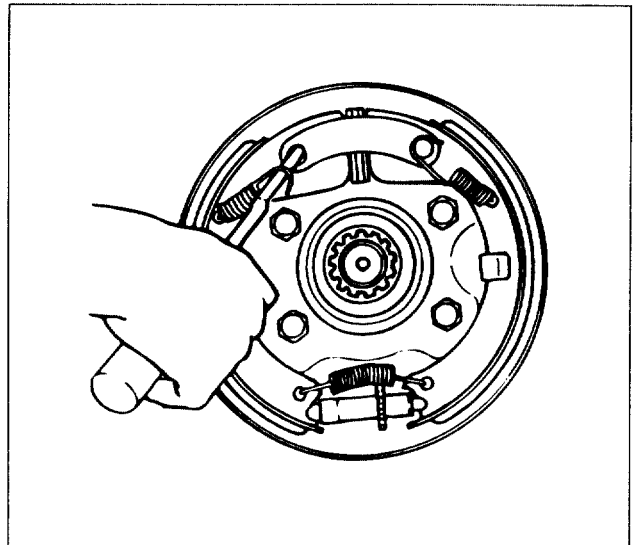

Figure 5 – Installing or Removing the Springs
2. Nut (23).
3. Drum (22) and flange (18).
- O-ring seal (20) in the flange (18) bore.
4. Spring (11) two places (figure 5).
5. Spring (15).
6. Adjuster (29).
7. Shoes (14).
1. Shoes (14).
2. Adjuster (29).
3. Spring (15).
4. Spring (11).
- Install springs (11) to the anchor pins (13) (figure 5).
5. Drum (22) and flange (18).
6. Nut (23).
- MLD Nut (23) to 784 N·m (579 ft. lbs.).
- Stake the nut (23) in 2 places, 180 degrees apart. (MBG and MLD)